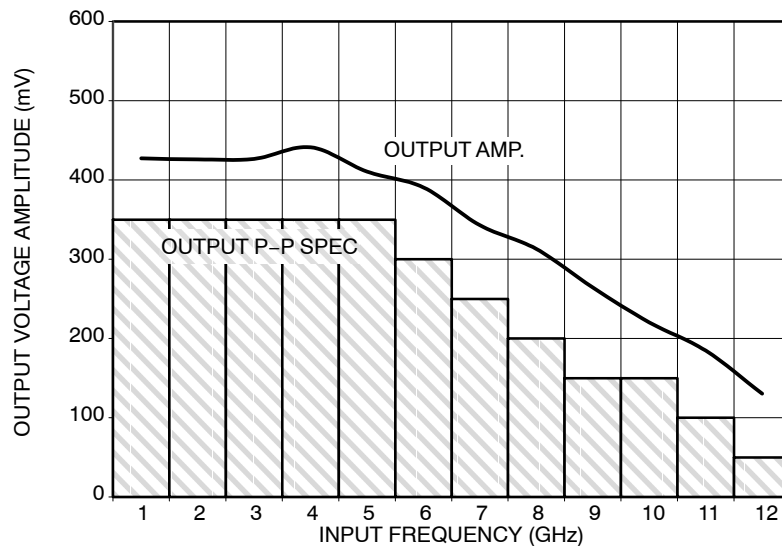

Figure 4. Output Amplitude (V_{OUTPP}) vs. Input Frequency (F_{IN}) at Ambient Temperature (Typical)
22. Measured using a 500 mV source, 50% duty cycle clock source. All loading with $50\ \Omega$ to $V_{CC} - 1.5\text{ V}$ for BGA package. For minimum $f_{\max}$ value of 10.709 GHz, output amplitude is approximately 200 mV (as shown in Figure 4, where output P-P spec is shown as a minimum/guarantee of around 150 mV). Input edge rates 40 ps (20% – 80%).
27. Measured using a 500 mV source, 50% duty cycle clock source. All loading with $50\ \Omega$ to $V_{CC} - 2.0\text{ V}$ for QFN package. For minimum $f_{\max}$ value of 10.5 GHz, output amplitude is approximately 200 mV (as shown in Figure 4, where output P-P spec is shown as a minimum/guarantee of around 150 mV). Input edge rates 40 ps (20% – 80%).